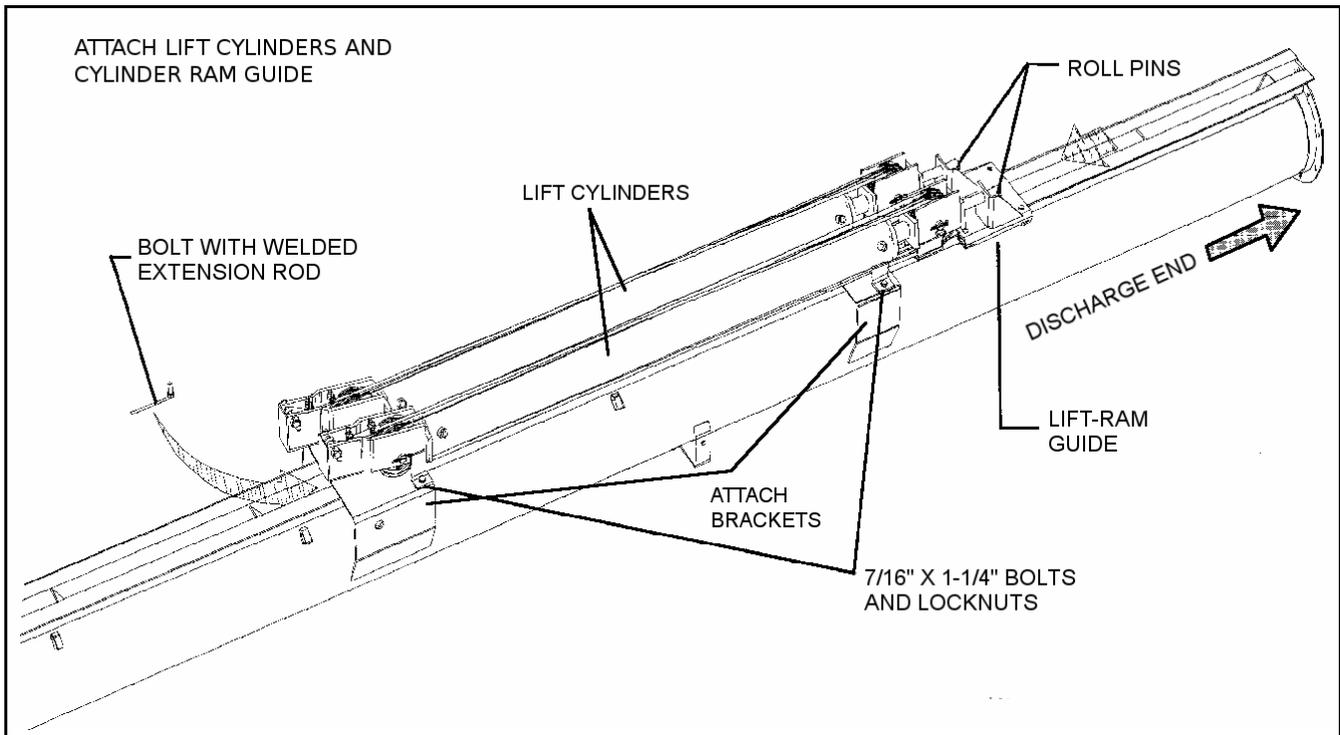

Figure 3.1
- a. Attach the lift cylinders to the attach brackets as shown in Figure 3.1 using 7/16" x 1-1/4" bolts and locknuts.
- b. Slide the lift ram guide onto track on Tube No. 4, then insert the ram ends into brackets on guide as shown in Figure 3.1. Secure with two roll pins.